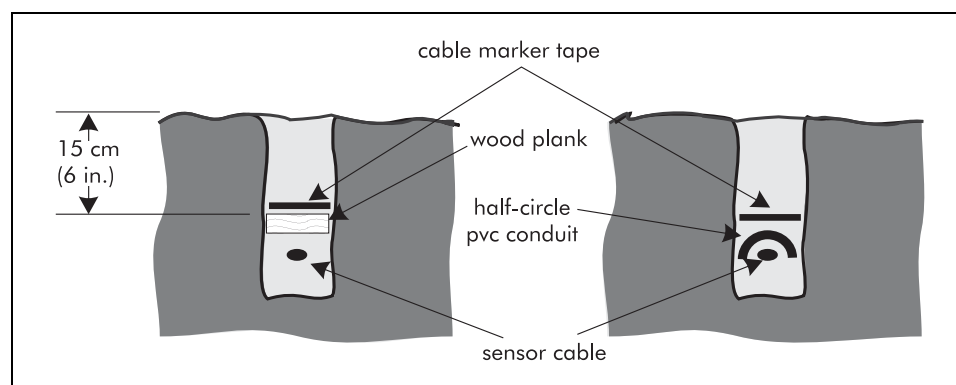

Figure 4-1: Protecting the sensor cable from surface damage
- Figure 4-1 illustrates how to protect the sensor cable from surface damage.